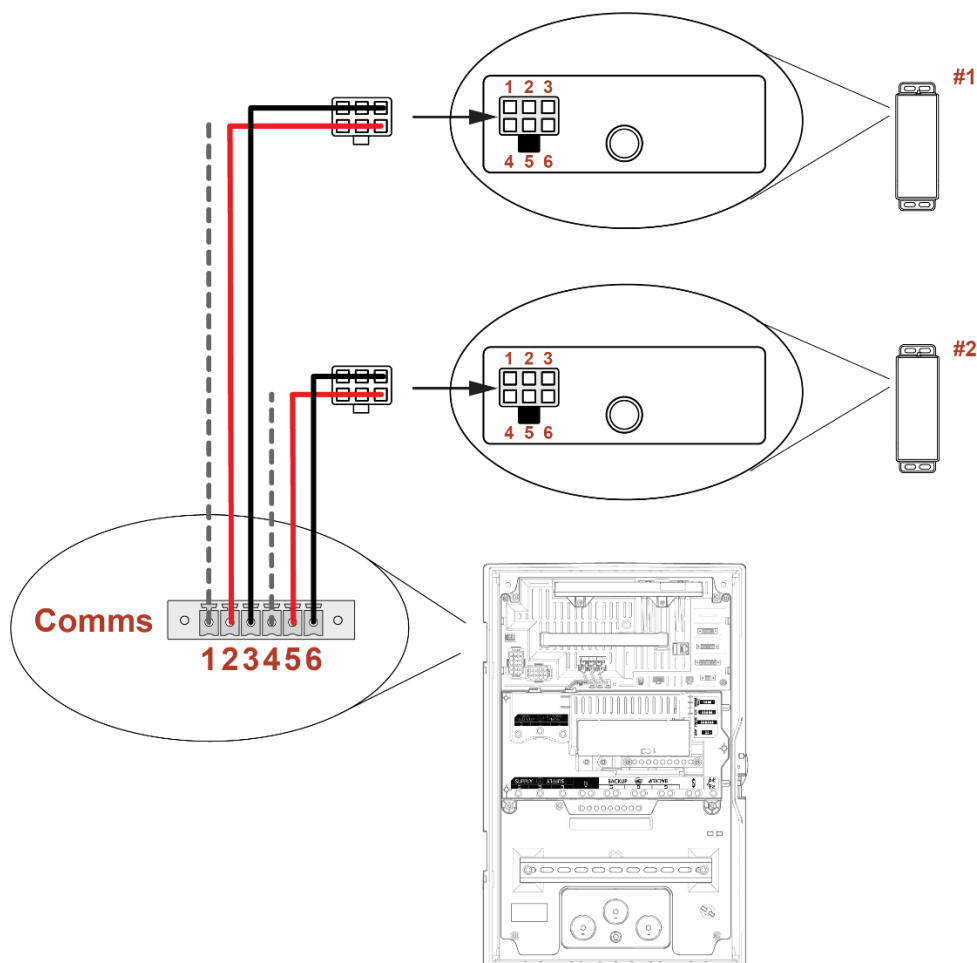

Figure 53: Meter Communication Wiring
2. Connect the harness leads to the Backup Gateway Meter Communication ports by inserting them into the corresponding connector, according to the following table and diagram (Figure 53).